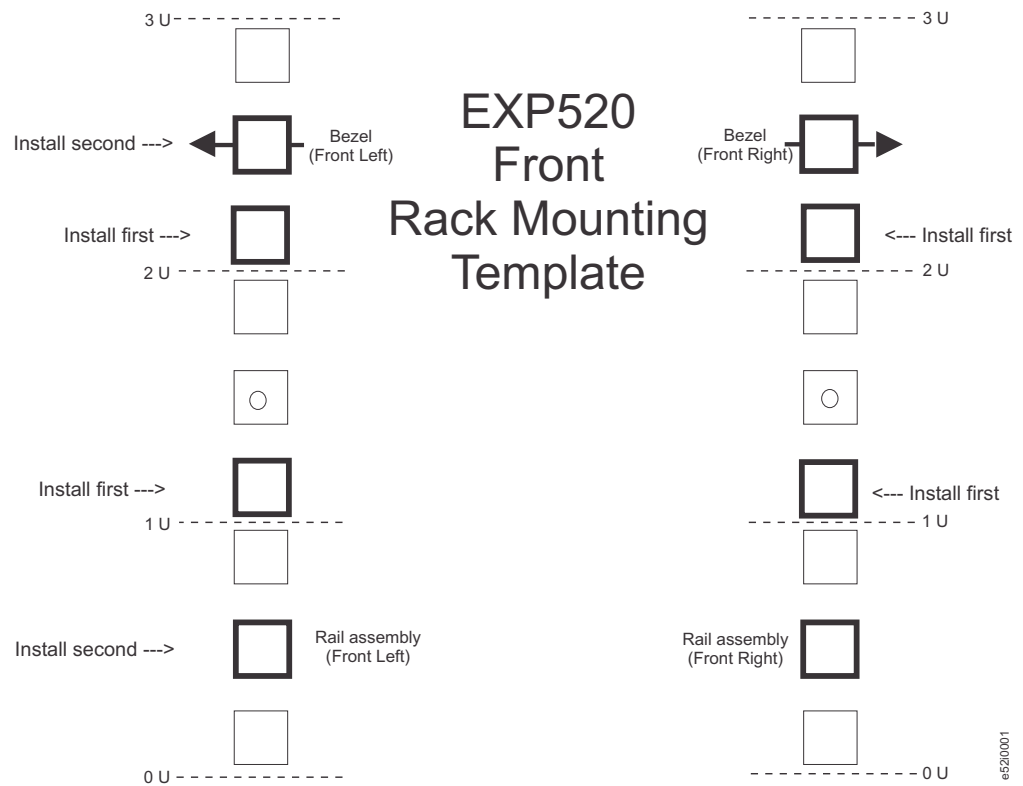
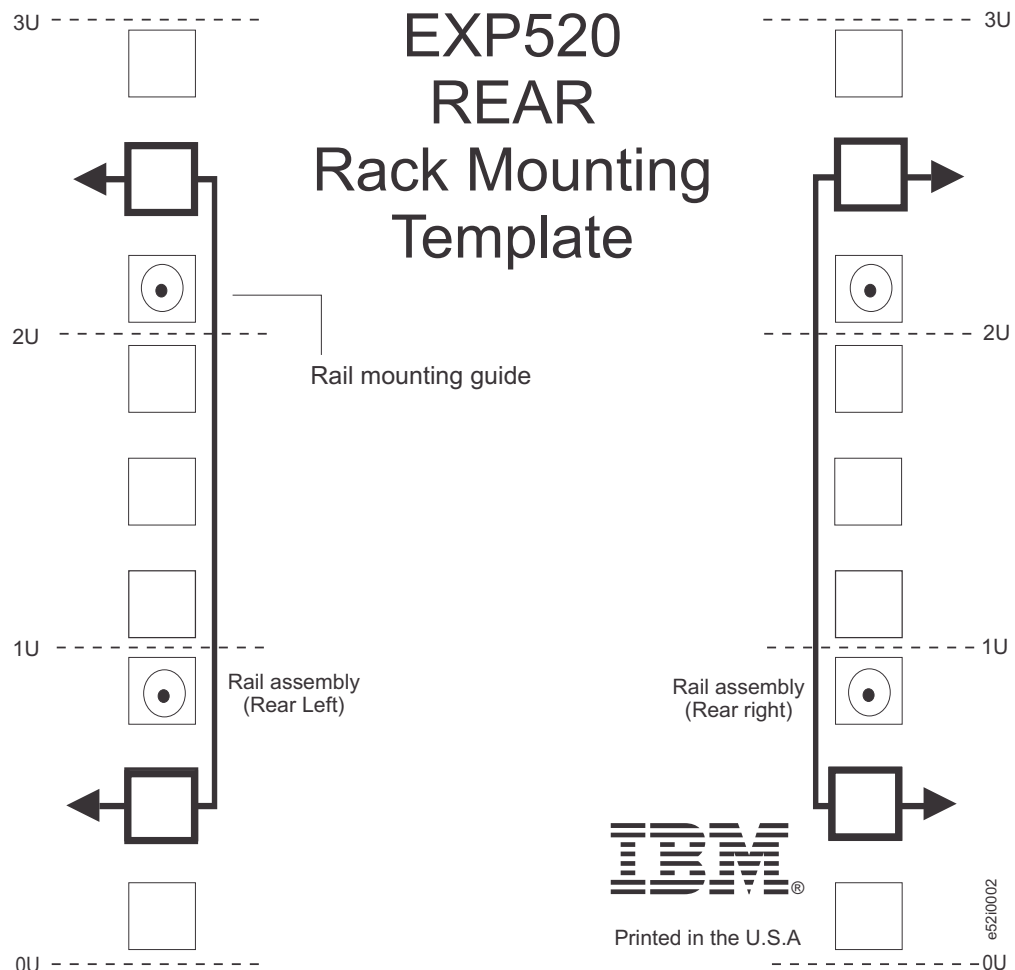

Figure 9. Front rack mounting template
Figure 10. Rear rack mounting template
Use the following templates (Figure 9 on page 25 and Figure 10 on page 26) to identify the proper locations for inserting M5 screws when mounting the support rails and EXP520 to a rack. The locations for the M5 screws are highlighted in the templates.
Attention: Use the rack mounting template provided in Figure 9 on page 25 and Figure 10 on page 26 to locate the proper rack mounting holes for installing the support rails into the rack.
6. Hold the back of the rail against the inside of the rack-mounting flange. Make sure the rail mounting guide pins are in the correct holes. See Figure 10 on page 26 for an illustration.
Note: Be sure to install the screws labeled *install first* in Figure 9 on page 25.